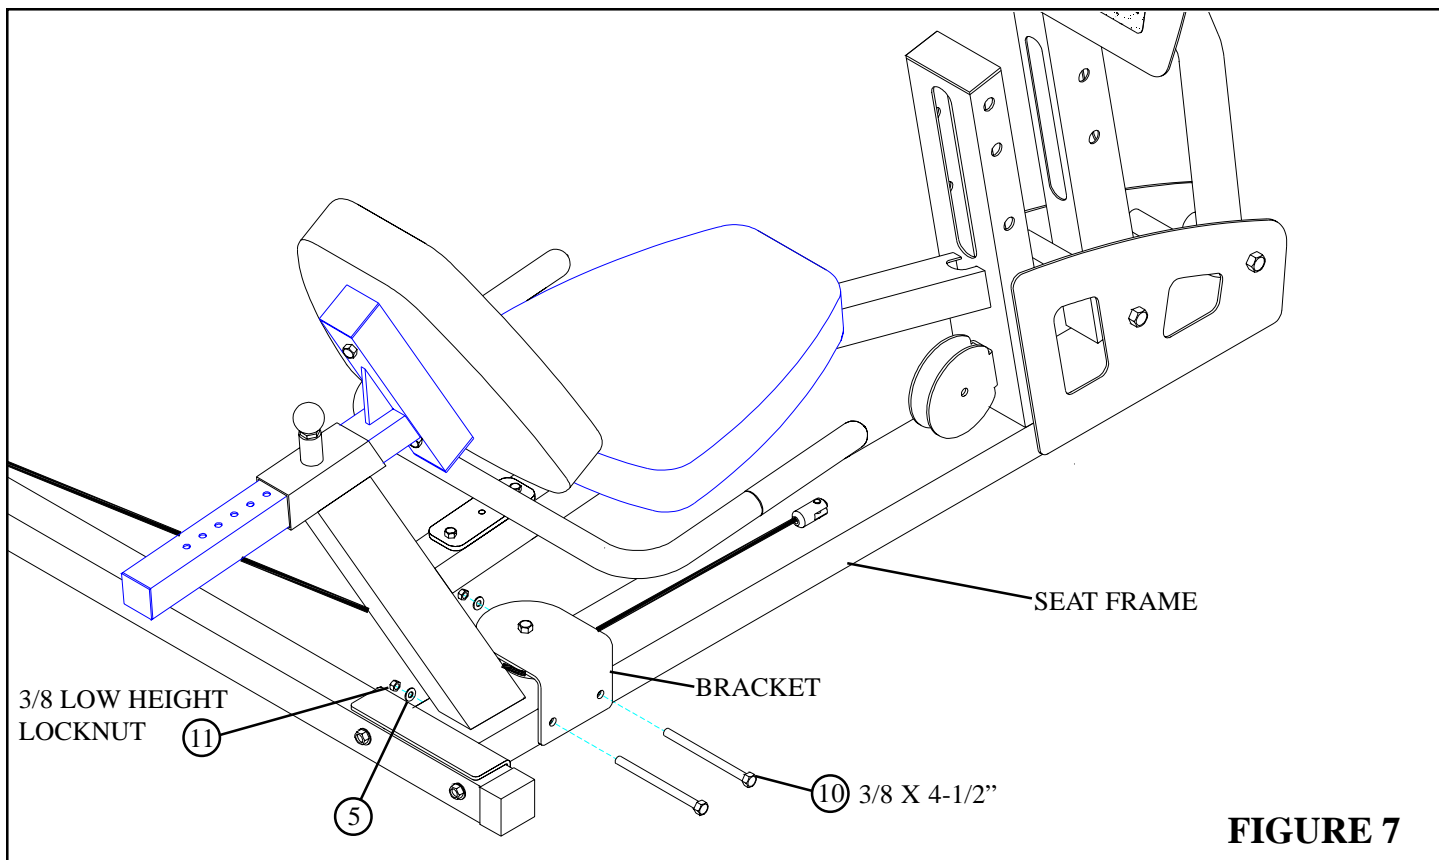

**FIGURE 6**
- Carefully route the LEG PRESS CABLE (2) around one 3-1/2" PULLEY (3) and **SECURELY** assemble the 3-1/2" PULLEY (3) to the BRACKET (from 100 LEG PRESS kit) using one 3/8 X 1-3/4" BOLT (7), one 3/8" WASHER (5), one CABLE CLIP (14) and one 3/8" LOCK NUT (6) as shown in FIGURE 6. Make sure the CABLE is in the grooves of all the pulleys.